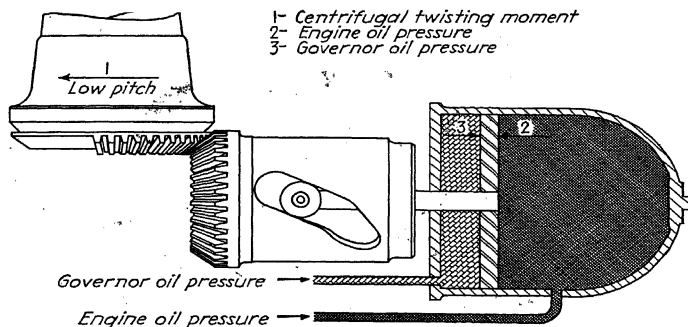

FIG. 31.—Diagram of propeller-control forces.
Three fundamental forces are used to control the blade angle. They are (1) centrifugal twisting moment of the blades toward low pitch which is utilized to decrease the blade angle; (2) engine oil under normal engine pressure which supplements the centrifugal moment, thus ensuring adequate control force toward low pitch at low propeller speeds; (3) engine oil under *boosted* pressure from the governor which moves the blades toward high pitch. These forces are indicated in Fig. 31.